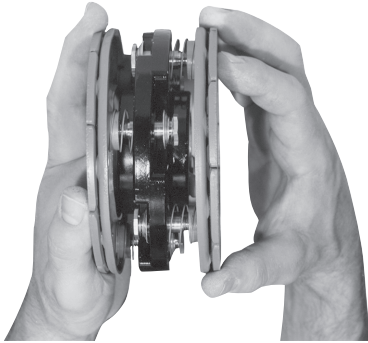

Figure 11
Step 7 Repeat Steps 5 and 6 for the second armature. (Figure 11)